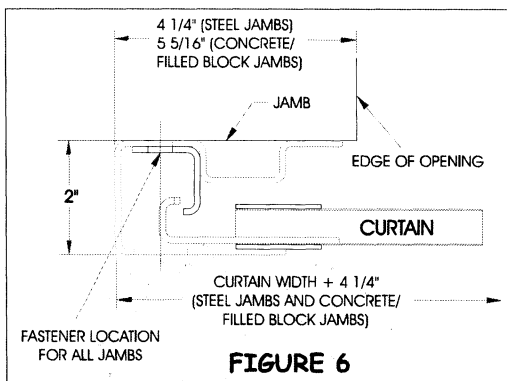

FIGURE 6
- B. The guides should be mounted centered about the opening and spaced curtain width + 4-1/4" apart measured from back of guide to back of guide. See figure 6. Both guides must be plumb.